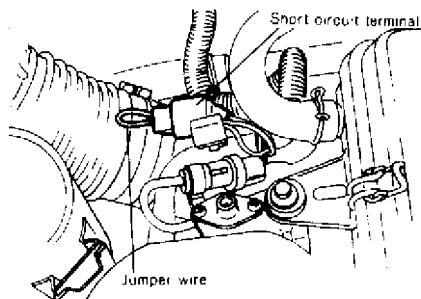

Fig. 3: Location of Short Circuit Terminal
2) Reconnect battery negative terminal. After turning ignition switch to "ON" position, short-circuit fuel pump short circuit terminal to start pump. See Fig. 3. Measure fuel pressure. Outlet pressure should be 49.8-71.1 psi (3.5-5 kg/cm2).